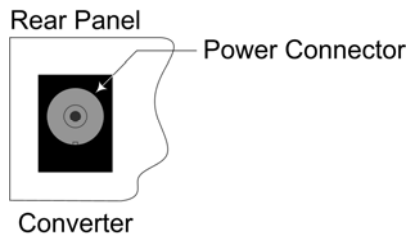

Figure 16: Standalone Device Power Connector
1.	Connect the barrel connector on the power adapter cord to the power connector on the Device (located on the rear of the Device). See Figure 16.